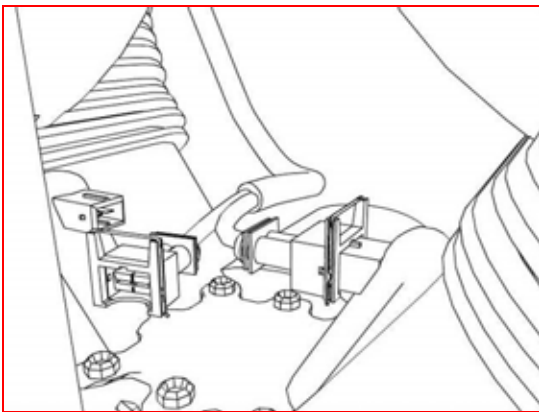

Fig 8
9. View from right. Depress the locking bails and remove the injector connectors. Rear first, then front. Do not pull the wires. (See figure 8,9)